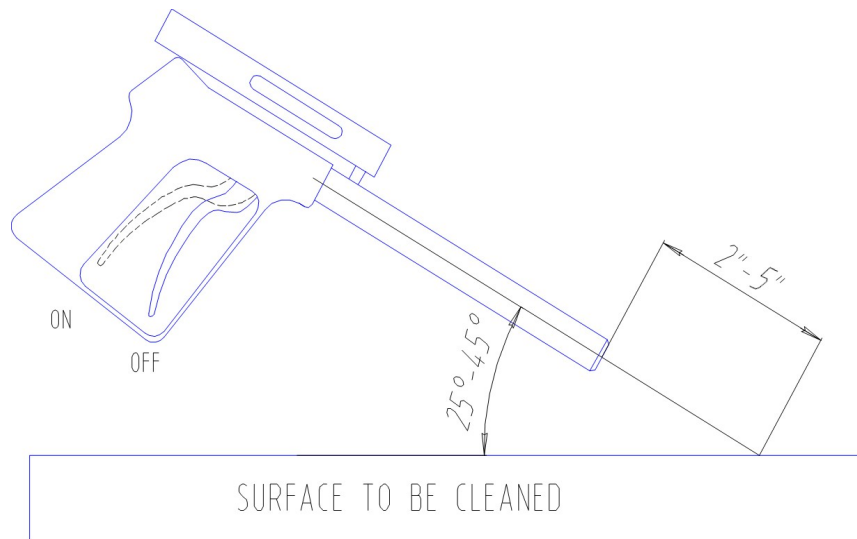

Figure 5.3 – Zero-Thrust Gun Position for Best Results
5. The zero-thrust gun trigger should be in open or “ON” position (See **Figure 5.3**) when engaging the PTO and throttling up the engine. This will prevent the pressure pump from being in a loaded condition which will cause the clutch and belt to slip while they are engaging the pressure pump.
8. Activate the cleaning cavitation stream by squeezing the gun trigger to the open or “ON” position (See **Figure 5.3**). Release trigger to stop the water flow at the nozzle and direct it to dump mode.
9. If the diver operating the unit must be replaced or the cleaning operation must be interrupted or terminated, disengage the pressure pump by pushing the throttle lever in to the idle position and pushing the PTO handle to the “OFF” position (See **Figure 2.3**). Release the water pressure in the hose(s) by squeezing the zero-thrust gun trigger to the open or “ON” position (See **Figure 5.3**) while under water. Revert to step 3 of the operating instructions when the diver or replacement is ready to continue cleaning.
2. The most efficient operating technique is to hold the nozzle 2-5 inches (5-12 cm) away from the surface to be cleaned and at a 25-to-45-degree angle to the surface being cleaned (See **Figure 5.3**). The diver needs to observe the shape of the cavitating jet cone. At greater depths, the higher ambient pressure will cause the jet cone to be shorter. The widest zone of the cone is the most efficient part of the cavitating-jet. Placing the nozzle closer than 2 inches (5 cm) from the surface being cleaned will not allow for efficient cavitation performance and will degrade the cleaning capability of the CaviBlaster system.
5. Squeeze the zero-thrust gun trigger to the open or “ON” position (See **Figure 5.3**) to release the water pressure remaining in the hose(s) while the zero-thrust gun is submerged.